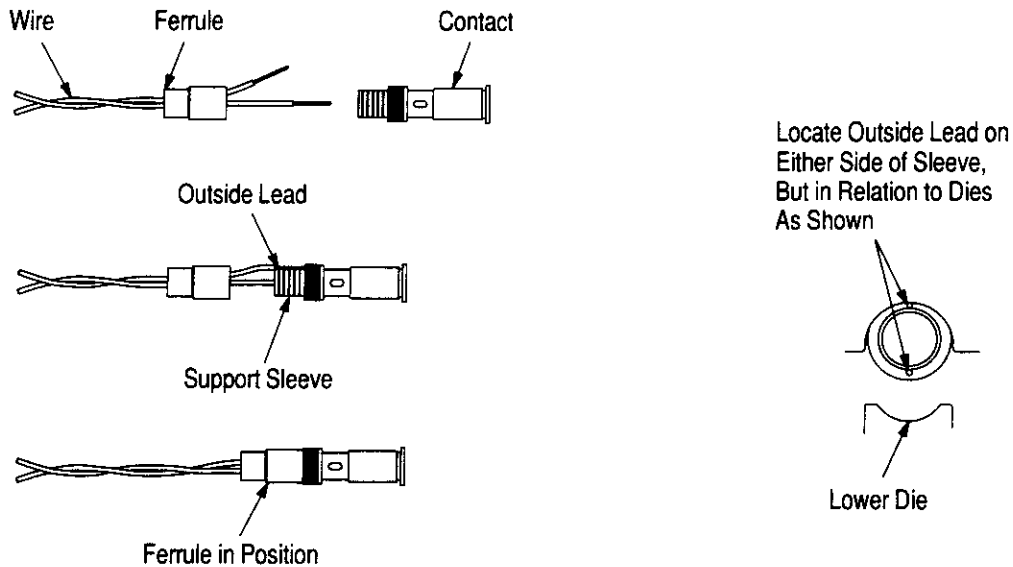

Figure 5
**4.2. Twisted Pair (Figure 5)**
4. Slide ferrule forward and over outside wire until ferrule bottoms against contact. See Figure 5.
Shorter (outside) lead must be in position shown in Figure 5 when crimped.